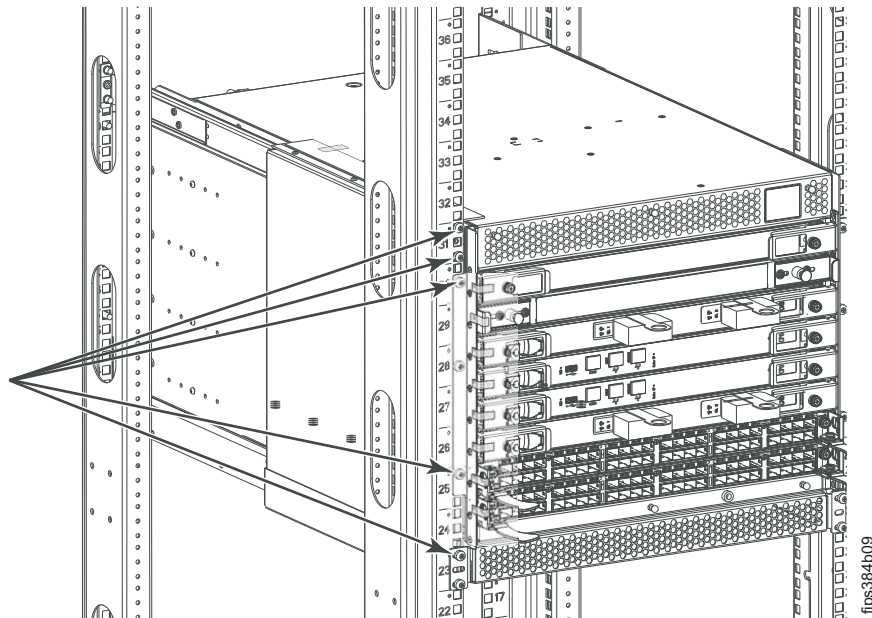
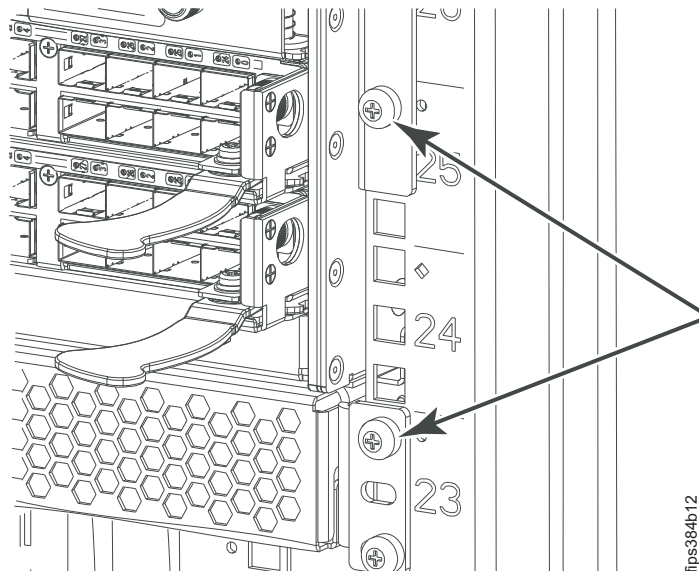

Figure 15. Five 2499-192 rackmount screws used for left side FIPS brackets (left port view)
Figure 18. Lower right 2499-192 rackmount screws to remove for FIPS bracket installation (detailed port side view)
2. Remove the three rackmount screws needed to secure the upper left FIPS bracket, as indicated by the top three arrows in Figure 15.
4. Remove the two rackmount screws needed to secure the lower left FIPS bracket, as identified by the two lower arrows in Figure 15 on page 17. (You can also refer to Figure 18 on page 19 for a more detailed mirror image of the similar lower right rackmount screws.)
8. Remove the two rackmount screws needed to secure the lower right FIPS bracket, as shown in Figure 18.